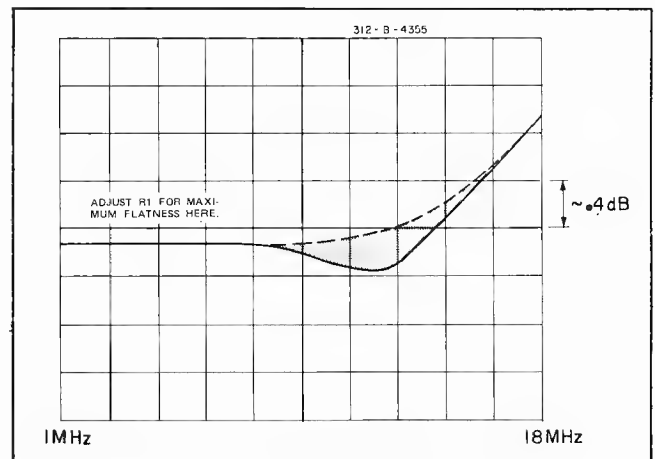

Figure 5-15. A33R1 Adjustment.
5. Adjust R1 for low frequency flatness as shown in Figure 5-15. This adjustment is very sensitive.